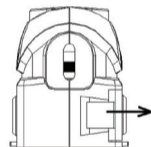

Fig. 2
2. Open the battery lid on the back of tool. (see Fig.2)